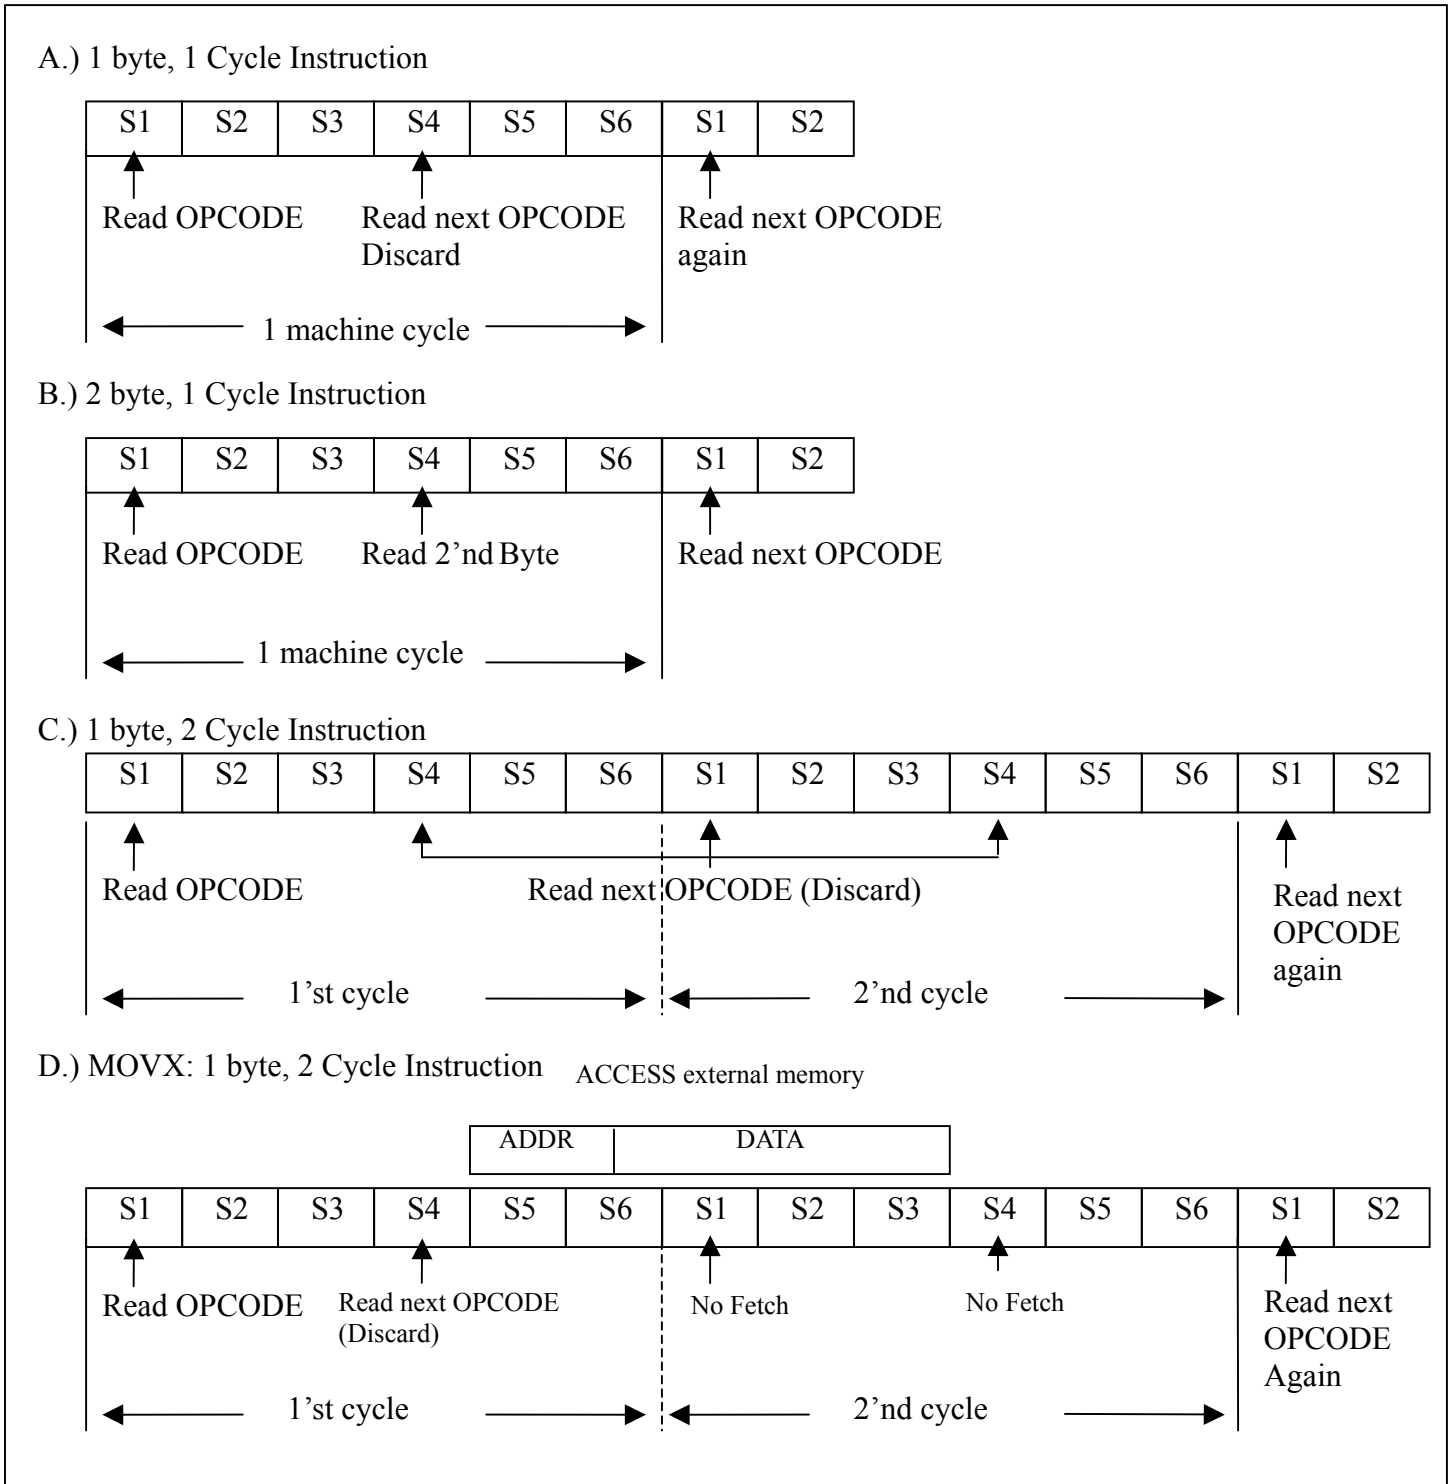

Figure 13 Timing of various instructions
The MOVX instructions take two machine cycles to execute. No program fetch is generated during the second cycle of a MOVX instruction. This is the only time that program fetches are skipped. The fetch/execute sequence for MOVX instructions is shown in FIGURE 13 (D). The fetch/execute sequences are the same whether the PROGRAM MEMORY is internal or external to the chip. Execution times do not depend on whether the PROGRAM MEMORY is internal or external.